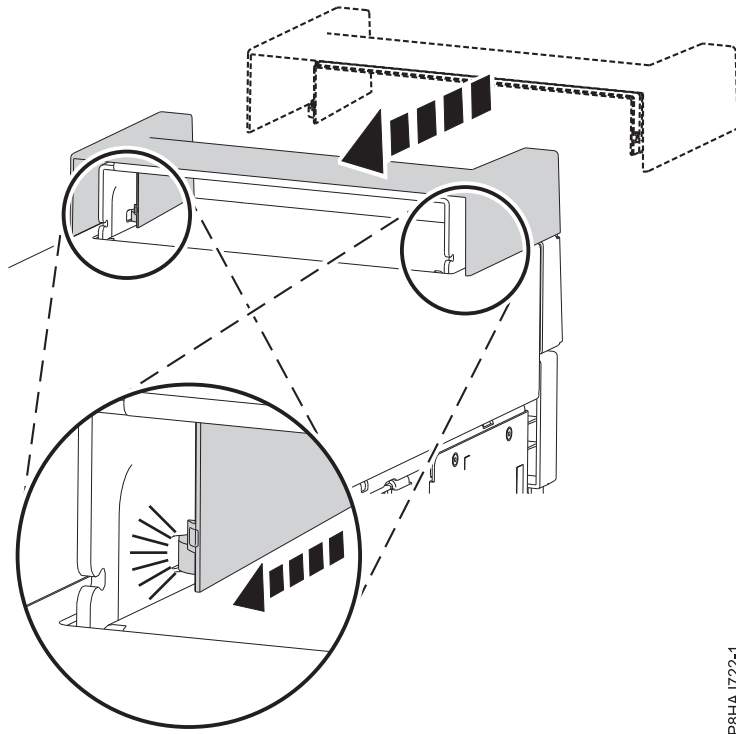

Figure 36. Securing the handle cover in an 8286-41A stand-alone system
1. Secure the handle cover to the internal RDX docking station (FC EUA3) by sliding it toward the rear of the system. See Figure 36.